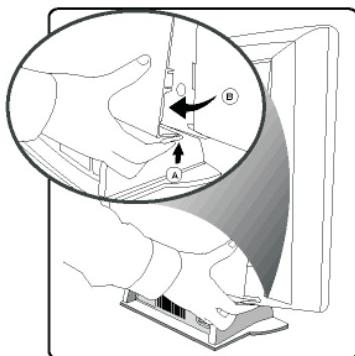

Fig. 1
Step 1 : To remove the back cover, press up to disengage the clips on each side, then pull and lift as shown in Fig.1